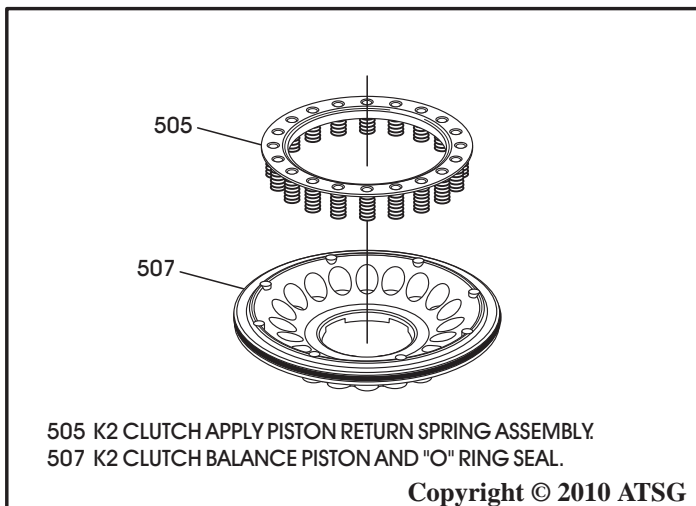

Figure 90
5. Turn the balance piston over and install the K2 clutch piston return spring assembly, as shown in Figure 90, and retain with liberal amount of Trans-Jel®.